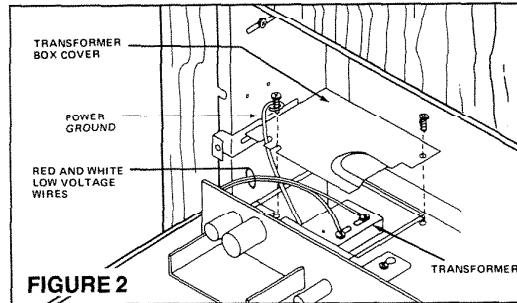

FIGURE 2
2. Remove two screws and ground wire from transformer box cover. Remove cover and disconnect the white and red/white low voltage wires from the transformer. (See Figure 2.)